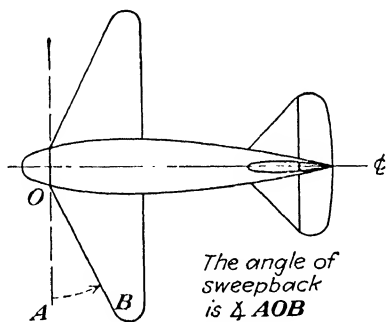

Fig. 113.
**B. Angle of Sweepback.** Figure 113 shows clearly that the angle of sweepback is the angle between the leading edge and a line drawn perpendicular to the center line of the airplane. In the figure,  $\angle AOB$  is the angle of sweepback.